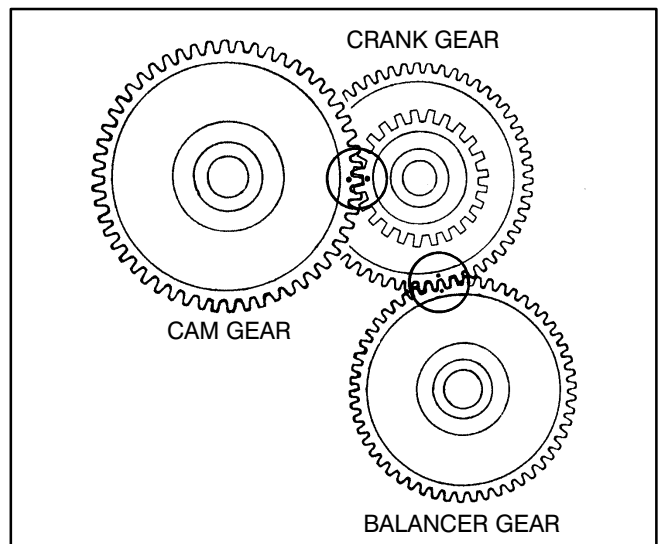

FIGURE 9-16. CAM, CRANK AND BALANCER GEAR ALIGNMENT
5. For installation, apply oil to the tappets and the tooth surface of the gears. Align the marks on the cam gear and crank gear and also on the balancer gear and crank gear as shown in Figure 9-16.